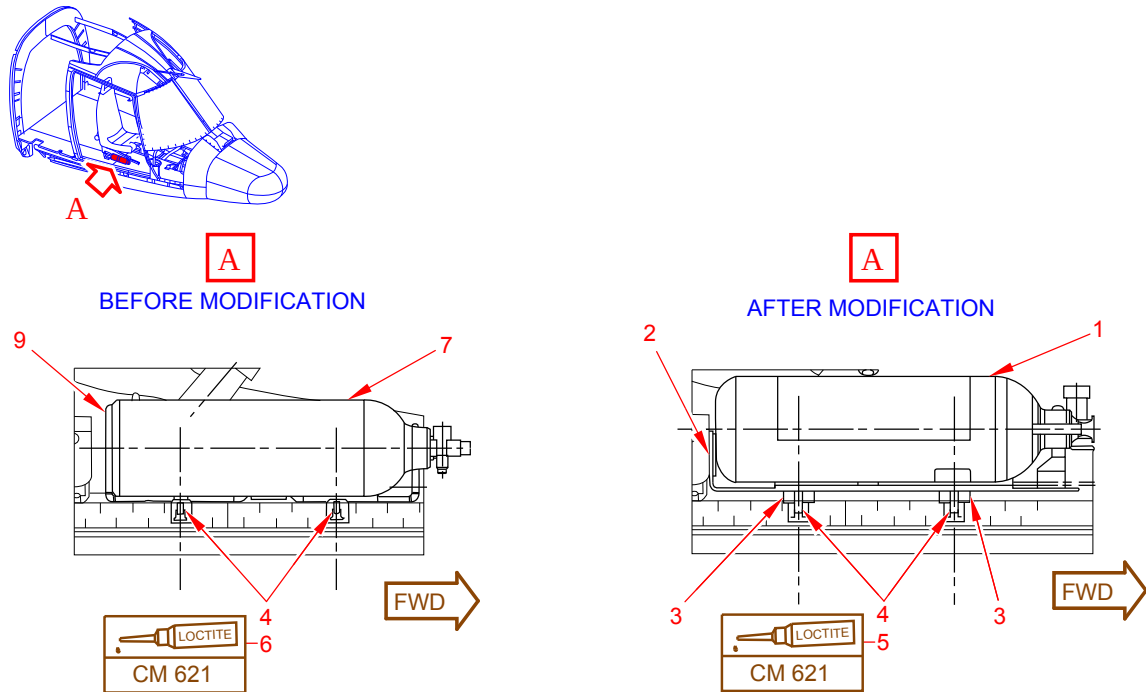

Figure 1
- 4.1. Removal of the Cockpit fire extinguisher and the bracket on Cockpit floor (Figure 1).
- 4.2.1. Install the HAND FIRE EXTINGUISHER BRACKET P3APP003020J (2) (Figure 1) with:
- SCREW SIX LOBE RECESS ECS2365TK04S22X (5).
- Washer 23116TK040X (4).
- SPACER 350A77-2428-20 (3).